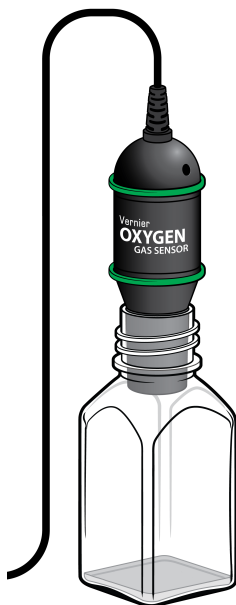

Figure 1
- e. Place the O2 Gas Sensor into the bottle as shown in Figure 1. Gently push the sensor down into the bottle until it stops. **Note:** The sensor is designed to seal the bottle with minimal force.